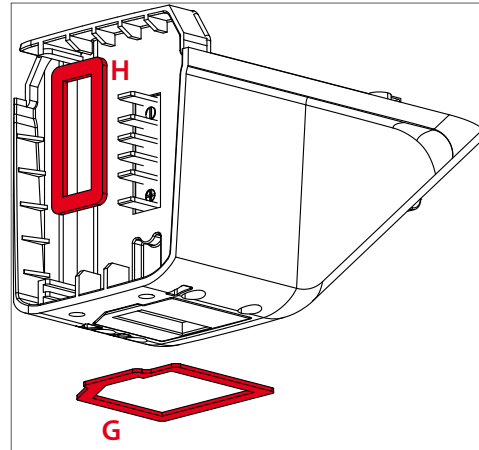

Figure 4.17 Docking station - Attaching the seal
2. Install both seals [H,G] on a clean surface (Fig. 4.17).